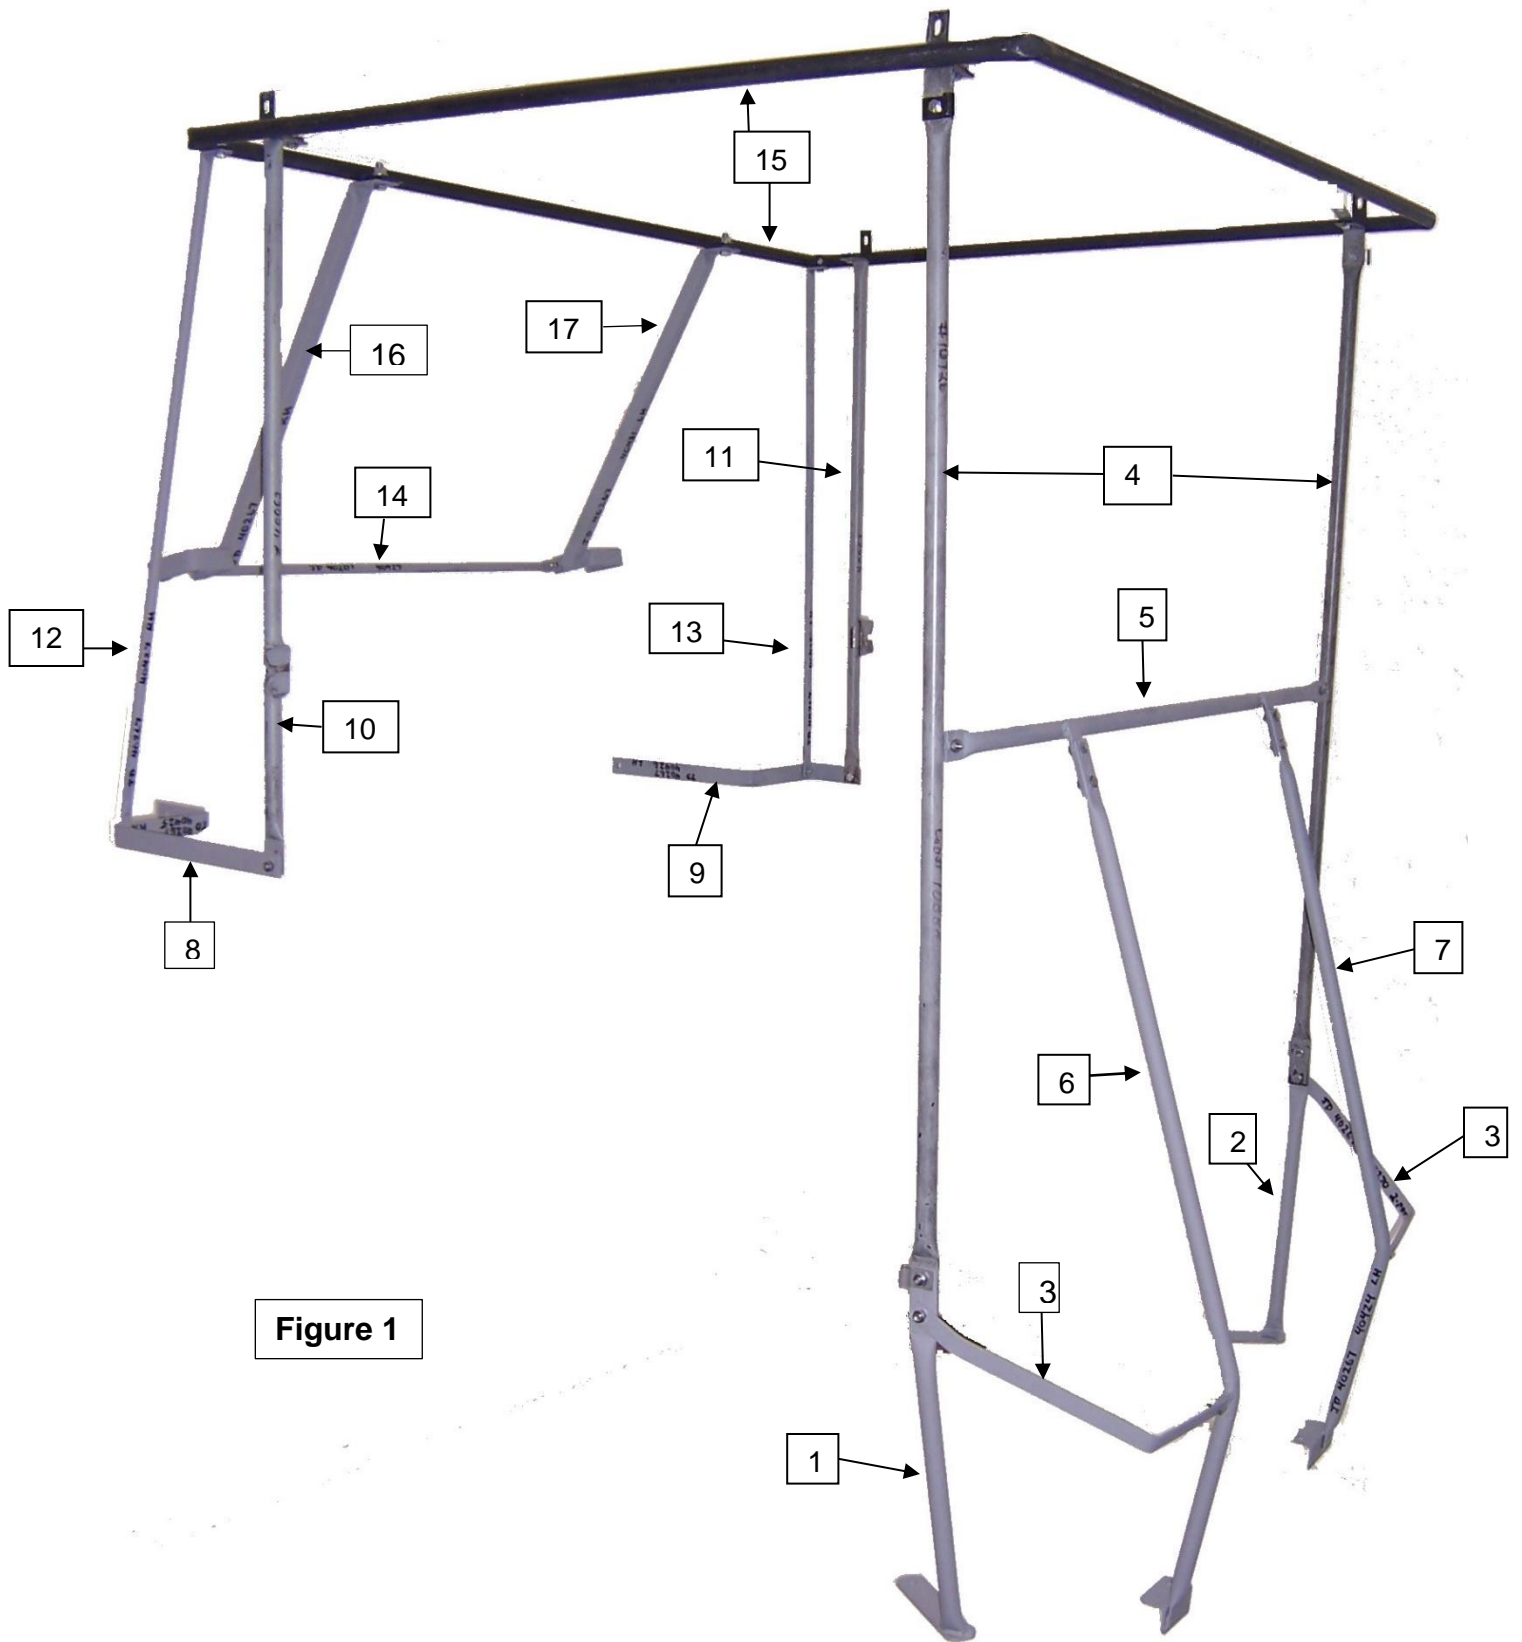

Figure 1
Step 1; See Figure 1:
Use the parts list and Figure 1 to identify the steel parts.